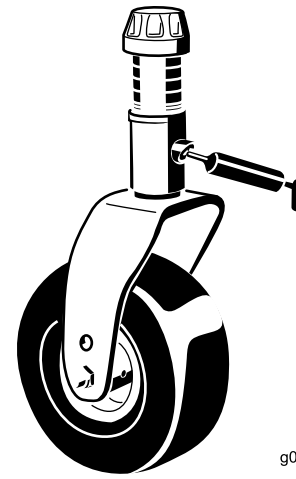

Figure 43
- Castor fork shaft bushing (1) (Figure 43)
- Idler arm pivot bushings (1) (located on the idler arm)